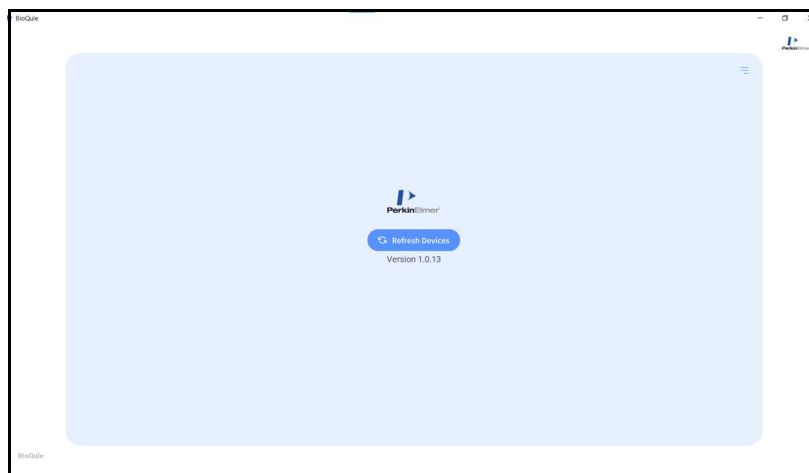

Figure 9. Refresh Devices Button
- 1 Double-click the **BioQule icon** on the Windows desktop or select **Start > BioQule** on the Windows Start menu. The BioQule software opens with the Refresh Devices button in the middle of the window as shown in Figure 9.